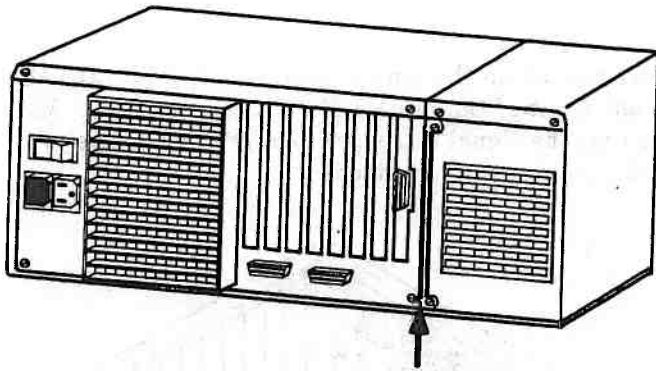

Figure 3-37. Attaching the Small Expansion Box to the System Module
8. Fasten the Small Expansion Box to the System Module by attaching the clamp to the rear of the System Module (Figure 3-37).